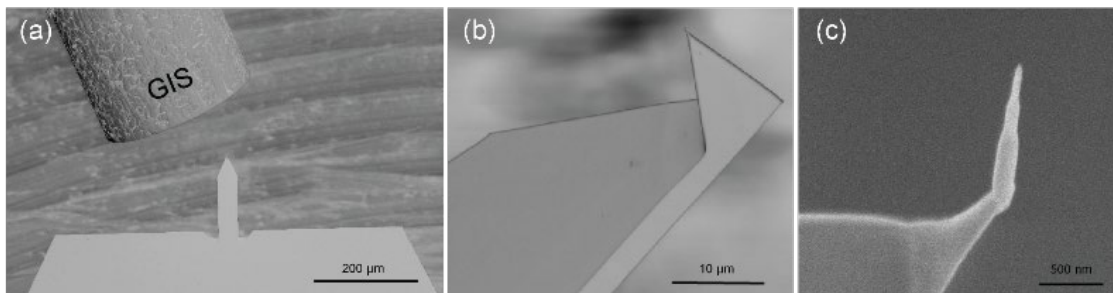

Figure 1: a) - c) Secondary electron (SE) images taken with the FEI Helios NanoLab 650.
In December this year, our FEI Helios NanoLab 650 will be expanded with a gold gas injection system (GIS) for focused ion and electron beam induced deposition (FEBID/FIBID). To increase the conductivity of the deposited gold, a second needle is used to supply oxygen during the deposition. Oxygen radicals bind carbon and thus increase the purity of the deposited gold. The following materials can already be used for nano patterning at the present time: Platinum (Pt) and tungsten (W) as conductive materials, carbon (C) as an insulating and cobalt (Co) as a magnetic material. Figure 1 (a) shows an extended GIS needle, which is about 150 μm above the sample. (b) shows a cantilever on which cobalt was deposited at the tip. The tip can now be used for magnetic force microscopy (MFM). (c) also shows a sharp tip at the end of cantilever. Here, platinum was deposited to improve the original spatial resolution of the tip.